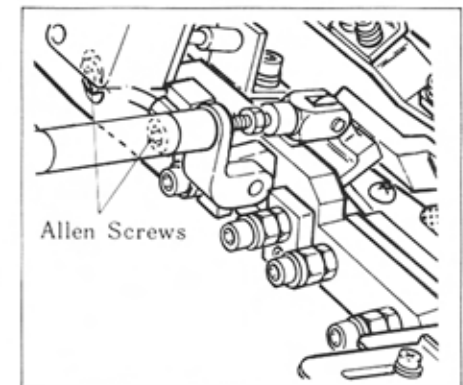

Figure 10
3. Clamp Foot Adjustments (Figures 10, 11 and 12)
- (a) To level the clamps, loosen the two large allen screws on the side of each clamp arm (see Figure 10). Loosen the screws and position the clamps evenly. Lower the clamps and check for even clamping pressure.